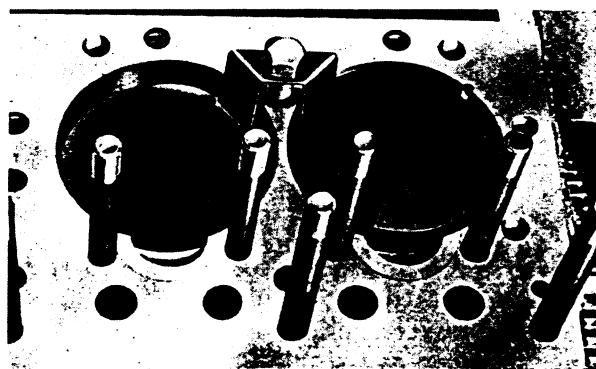

FIG. 139.
7. Secure cylinder liner by means of Retainer FT.112 with screw through appropriate stud hole, Fig. 139.